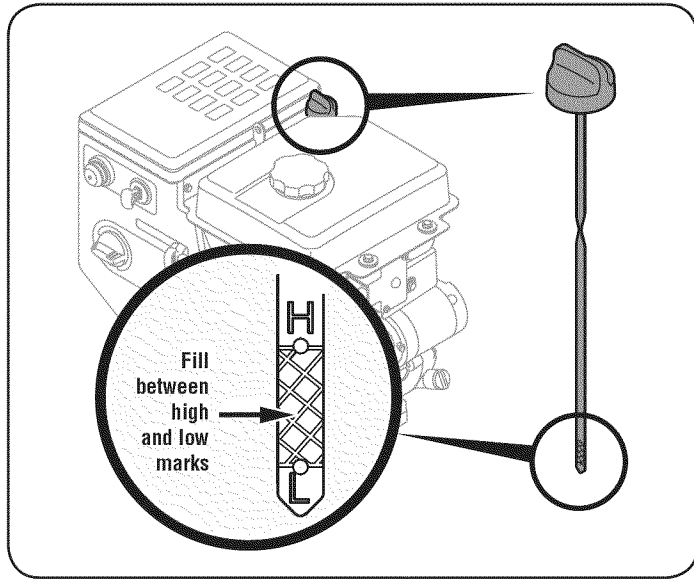

Figure 11
- Keep oil level between "H" and "L" marks on dipstick. See Fig. 11.
1. Remove the oil filler cap/dipstick and wipe the dipstick clean. See Fig. 11.
3. Remove the oil filler cap/dipstick. If the level is low, slowly add oil until oil level registers between high (H) and low (L), Fig. 11.